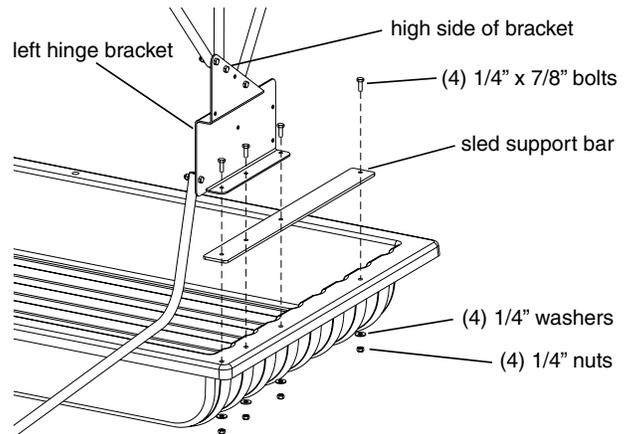

FIGURE 1A (left side shown)
1. Attach sled support bar (69677) and the left hinge assembly (69309L) to the upper lip of sled using (4) provided 1/4-20 x 7/8" bolts, nyloc nuts and washers. **SEE FIGURE 1A.**
NOTE: *Be sure hinge assembly is orientated as shown in FIGURE 1A, with high sides of hinges placed to the front of sled and hinge poles to the inside.*